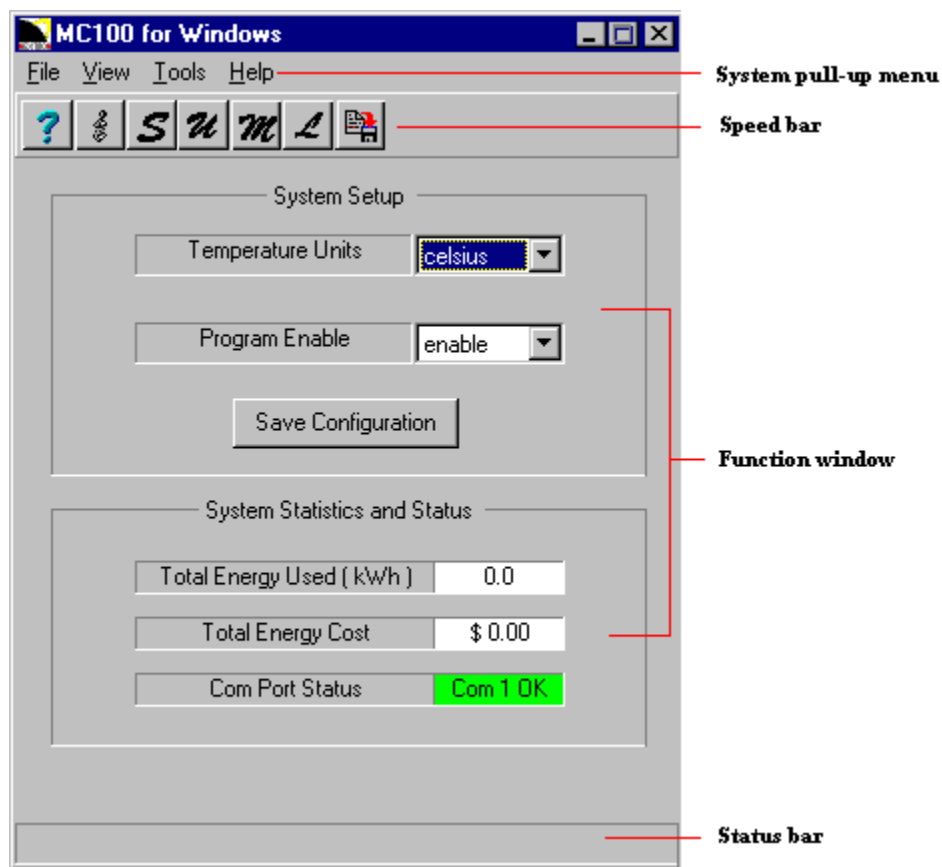

Figure 1 – MC100 screen
A typical MC100 screen is shown in Figure 1. It consists of 4 major parts. They are: (1) **System pull-up menu**; (2) **Speed bar**; (3) **Function window**; (4) **Status bar**.